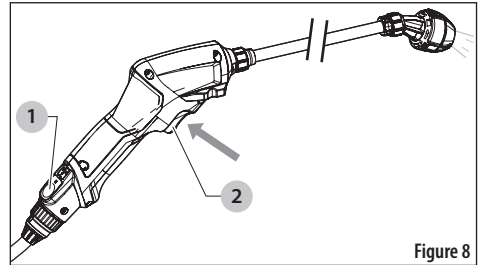

Figure 8
1. Press the power button (1) to turn the sprayer ON. The light above the power button turns on. See *Figure 8.*
2. Aim the power wand sprayer in the desired direction of spraying and squeeze the trigger (2).
3. To turn OFF the power wand sprayer, press the power button (1). The light above the power button turns off.